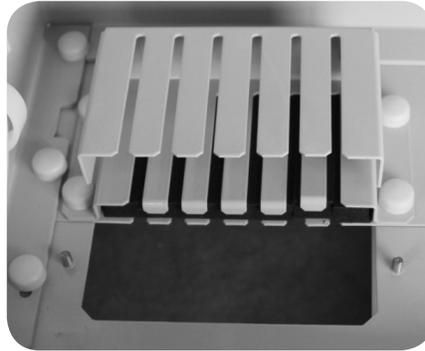

Figure 23
3. Remove the MDU drop access plate. **(Figure 23)**